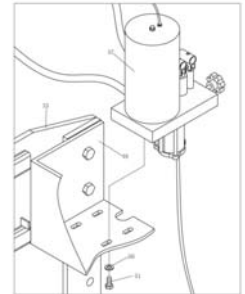
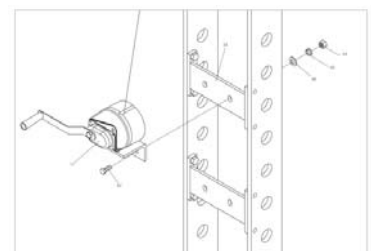

Figure 3
Figure 5
- Assemble the nylon ring (42) to gauge fitting (43), then put the pressure gauge (41) and twist tight. Remark: twist as tight as possible, otherwise it may leak. Attach the gauge fitting to the suitable upper cross beam and twist bolt (44)
- Pump assembly: attach the pump assembly (57) to pump setting plate (49) by using three bolts (51) and lock washer (50) and twist tight. (figure 3, 4)
- Oil hose 1 assembly: dismantle the plug from oil hose 1 (58) then assemble the o-ring (45), also dismantle the plug from ram assembly (37), connect the oil hose 1 (58) to ram assembly (37) and twist tight.
- Oil hose 2 assembly: attach the o-ring (45) to gauge fitting (43), then put the oil hose 2 (59) into the gauge fitting (43) and twist tight, connect the PU pipe (A-A). Attach the handle (53) to the pump pin by using bolt (56) and twist tight, also the same as handle 2 (54).
- Remark: before assembly, open the breather valve (61) first which is on the cylinder (pull up the breather valve).
- Move the hand winch (11) to the outside of the post, then use bolt (02), washer (06), lock washer (05), and nut (04) which were dismantled just now to twist tight and fix to the relevant roller. (figure 5)